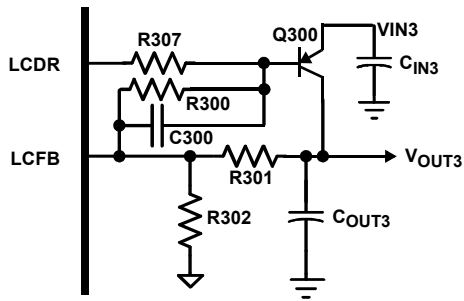

FIGURE 16. LINEAR COMPENSATION COMPONENTS
The linear regulator controller controls an external pass element, typically a PNP bipolar junction transistor; see Figure 16 for reference. The error amplifier in the ISL6442 has approximately 72dB (V) of gain. The linear regulator circuit must be compensated such that the gain of the internal error amplifier crosses through 0dB with a slope of 20dB/decade. This allows easily predictable phase response through the 0dB point. The output circuit has a dominant pole determined by the output capacitance and the combination of the sense resistor and the output resistance of the BJT.